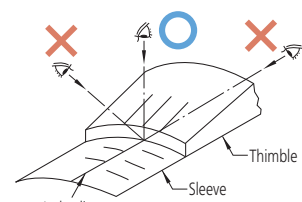

Fig. 2
1. Read the graduations seen directly from above to avoid parallax error. (Fig. 2)